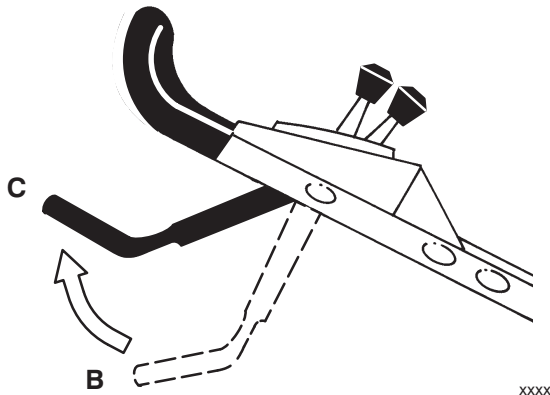

Figure 14
3. Bring the control bar up into the middle position (about five inches below the handle cross bar) (Refer to position *C* in Fig. 14).
4. Release the control bar (Refer to position *B* in Fig. 14).